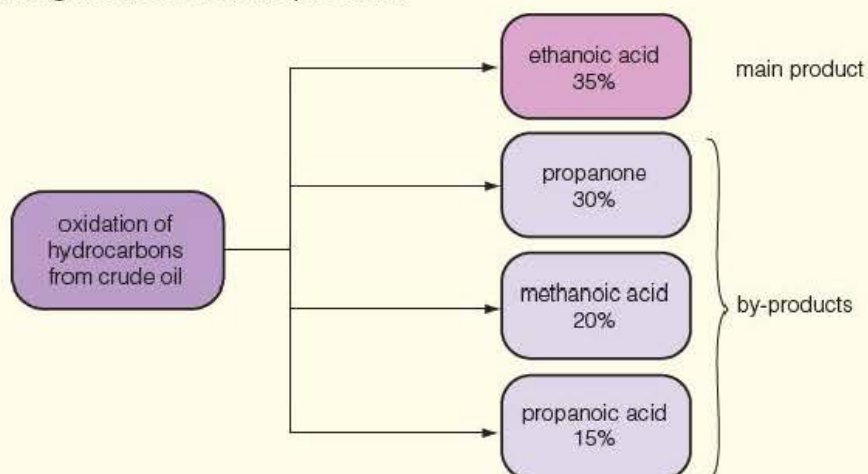

Figure 18.10 ▲
Until the 1970s, the main method of making ethanoic acid was to oxidise hydrocarbons from crude oil with oxygen in the presence of a cobalt(II) ethanoate catalyst (Figure 18.10). This process ran at 180–200 °C and at 40–50 times atmospheric pressure. The reaction produced a mixture of products which had to be separated by fractional distillation. The economics of the process depended on finding markets for all the products.